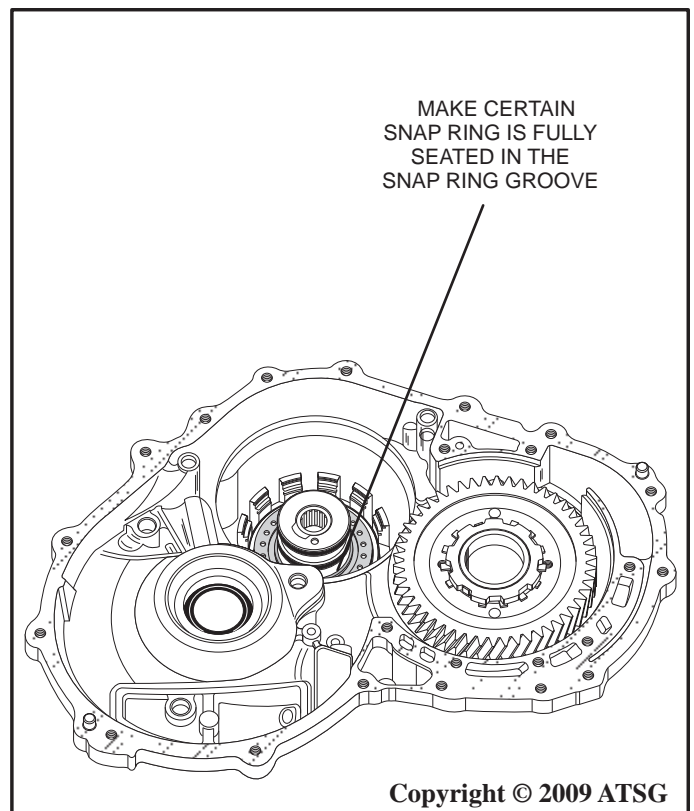

Figure 189
88. Make certain the snap ring is fully seated into the snap ring groove as shown in Figure 189.